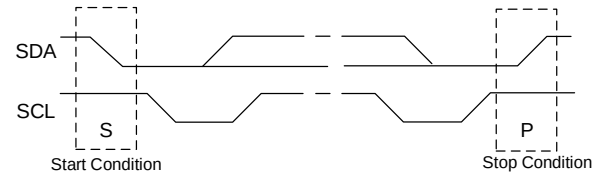

Figure 13: Start (S) and Stop (P) Conditions
The start (S) and stop (P) conditions are signaled by the master device, and signify the beginning and the end of an I2C transfer. The start condition is defined as the SDA signal transitioning from high to low while SCL is high. The stop condition is defined as the SDA signal transitioning from low to high while SCL is high (see Figure 13).